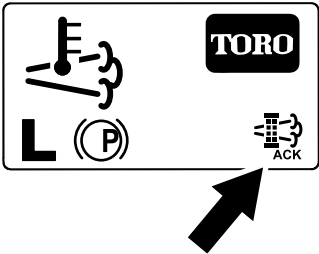

Figure 62
8. The InfoCenter displays the home screen and the regeneration acknowledge icon (Figure 62) appears in the lower right corner of the screen as the regeneration processes.